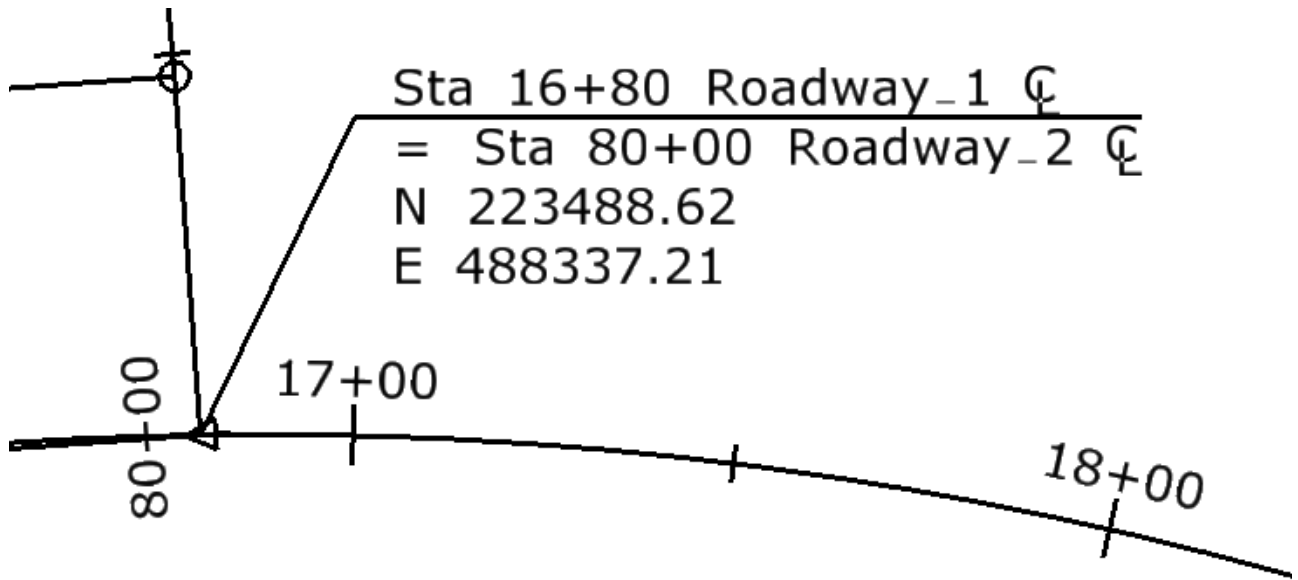

Figure 4-12 MicroStation Screen Shot of InRoads Generated Intersection Dat
- L. The text will now be interactive with the cursor. Click again to place the graphics at the desired location. Right click to end the command. Figure 4-12 displays a section of an annotated Intersection Alignment.